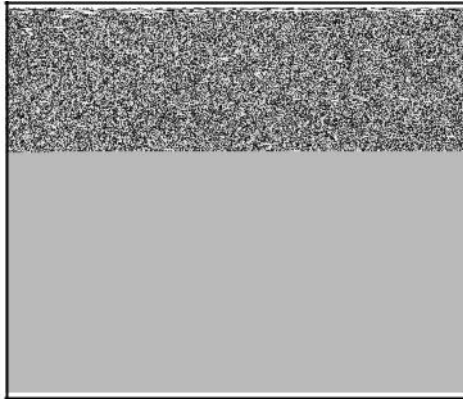

Figure 21
4. Attach RED test lead clip (**A**, Figure 21) to DC output pin (**F**) in connector (**D**).